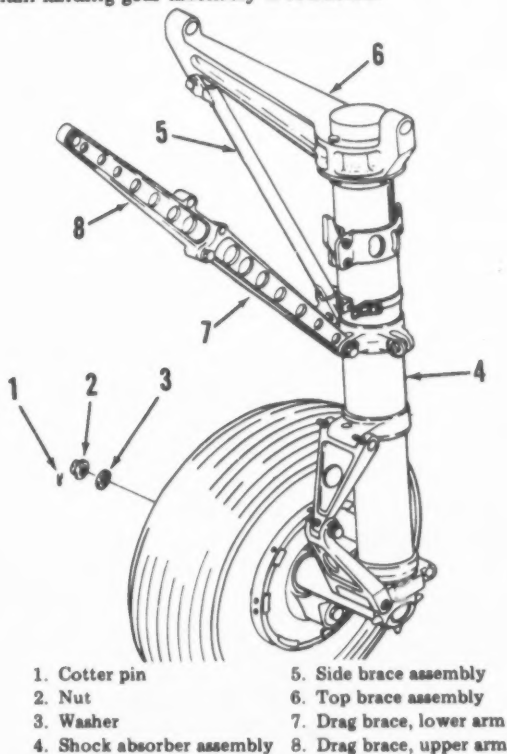
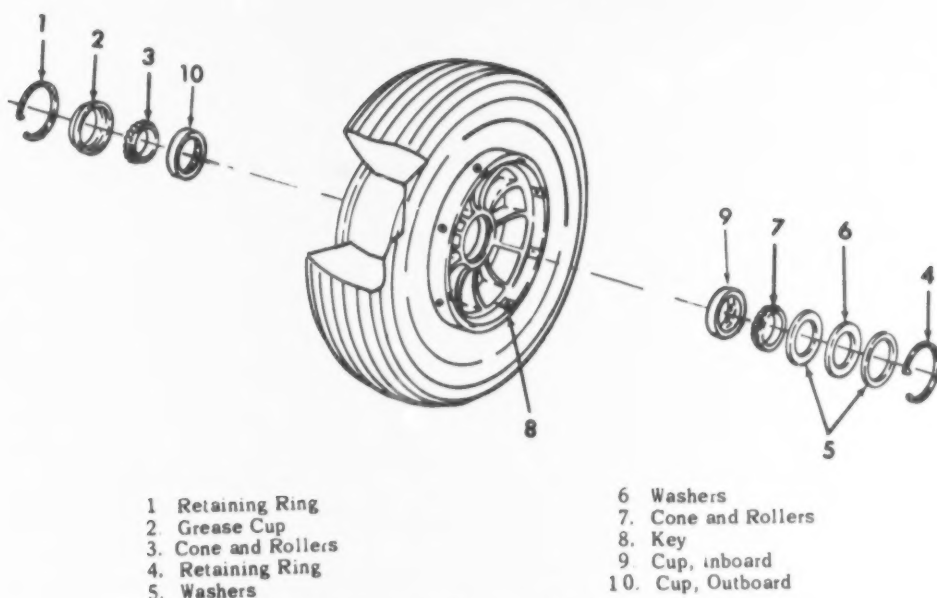

Figure 4-34. Main landing gear assembly
Figure 4-35. Main wheel and tire assembly
4-258. There are two main landing gear assemblies (figure 4-34) installed on the U-8 aircraft. Each main landing gear assembly consists of a main wheel and tire assembly, brake assembly, shock absorber assembly, drag brace assembly, down lock mechanism, torque knee assembly, side brace assembly, and top brace assembly. A drag brake shoe assembly is installed in each main wheel well to stop main wheel assembly from turning after the main landing gear assembly is retracted.
4-260. Each main wheel assembly (figure 4-35) consists of a tire, tube, and wheel as one assembly. Bearing cups items (9) and (10) are installed in the hub of the outboard and inboard wheel sides. Cone and rollers (3) are installed in cup (10) and cone and rollers (7) are installed in cup (9). Ten keys (8) are installed on the flange of the inboard wheel side for the mounting of the brake disc.
a. Removal. (1) Jack aircraft in accordance with paragraph 1-93.
(2) Remove valve core from valve stem and deflate tube. Remove retaining ring (1) figure 4-35, grease cap (2), cotter pin (1, figure 4-34), nut (2), washer (3), and cone and rollers (3, figure 4-35) from outboard wheel side, securing each main wheel and tire assembly on axle. Support brake disc (1, figure 4-36) and remove each main wheel and tire assembly.
(3) Remove retaining ring (4, figure 4-35), washers (5 and 6) and cone and rollers (7) from inboard wheel side.
b. Cleaning. (1) Clean all metal parts of main wheel with dry cleaning solvent (item 6, table 1-8) and dry with filtered compressed air.
(3) Lightly coat axle, wheel hub interior, and cups with grease (item 62, table 1-8).
(4) Position cone and rollers (7) and washers (5 and 6) in inboard wheel side and secure with retaining ring (4).
(5) Position main wheel and tire assembly on axle, and brake disk on keys (8) of inboard wheel side.
(6) Install cone and rollers (3, figure 4-35), washer (3, figure 4-34) and nut (2). Tighten nut enough to eliminate all side play, ensure that cones and rollers (3 and 7, figure 4-35) are seated properly and produce a wheel drag.
(7) Back off nut (2, figure 4-34) just enough to allow main wheel and tire assembly to turn freely.
(8) Install cotter pin (1) and bend and clip ends. Install grease cap (2, figure 4-35) and secure retaining ring (1).
(9) Lower jacks and remove from aircraft.
4-264. The shock absorber assemblies (4, figure 4-34) of the main landing gear assemblies are the air and hydraulic fluid type. Each shock absorber assembly consists of an upper and lower shock absorber. The upper shock absorber has a rebound control that controls the flow of hydraulic fluid between the upper and lower shock absorbers. The lower shock absorber has an axle installed for mounting the main wheel and tire assembly. A torque knee assembly is connected to the upper and lower shock absorber to prevent the lower shock absorber from turning in the upper shock absorber.
4-266. A drag brace assembly is attached to the forward side of each shock absorber assembly on the main landing gear assembly. Each drag brace assembly consists of a lower arm (7, figure 4-34) and upper arm (8). A down lock mechanism is installed on each drag brace assembly.
4-272. A side brace assembly (5, figure 4-34) is located on the inboard side of each main landing gear assembly. Each side brace assembly is attached to the top brace assembly and bracket on the shock absorber assembly of each main landing gear assembly.
4-274. A top brace assembly (6, figure 4-34) is installed on the upper end of each shock absorber assembly. The top brace assembly is used to attach each main landing gear assembly to the structure of each main wheel well.